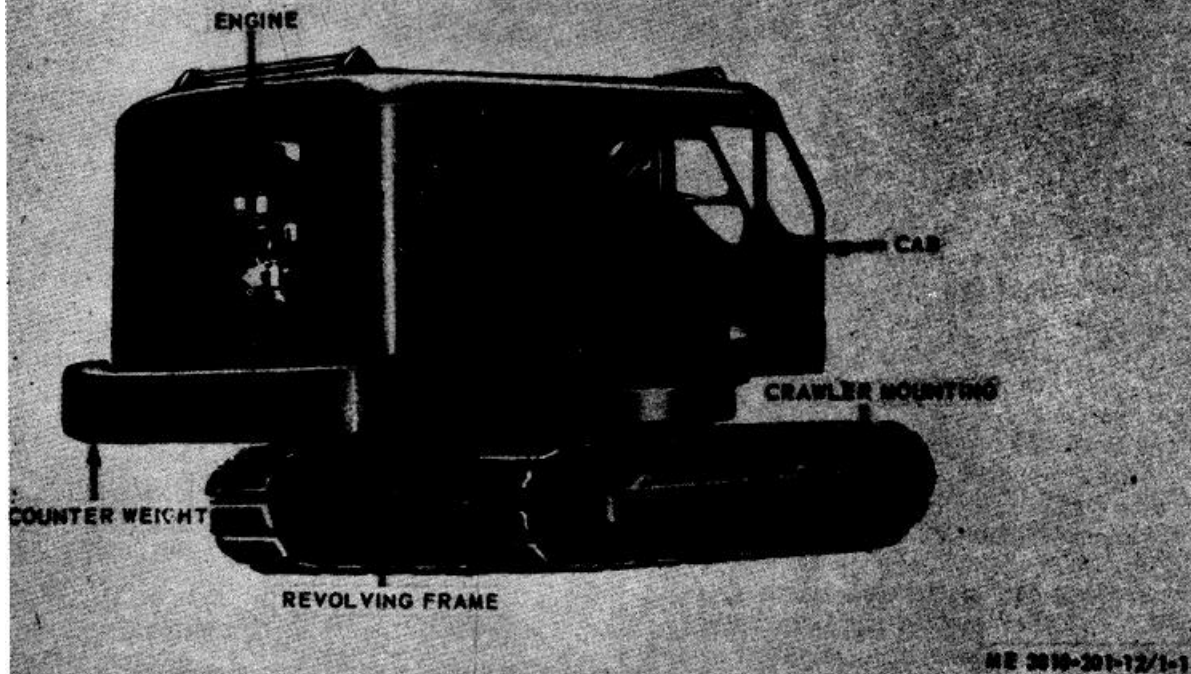

Figure 1-1. Crane-shovel basic unit, right 3/4 rear view, and shipping dimensions.
b. *Revolving Frame.* The revolving frame (fig. 1-1) upon which are mounted the engine, upper machinery, and gantry, revolves around a center gudgeon and a live roller circle mounted on the crawler. It carries four hook rollers (two in front and two at rear), which ride on the underside of the roller path, and prevents tipping of the rotating base. A counterweight is fastened at rear of revolving frame. A gantry frame which contains gantry sheaves and harness, is mounted on the revolving frame along with a collapsible high gantry which is provided for use in crane, clamshell, dragline, or piledriver service.
c. *Cab.* The cab (fig. 1-1) completely encloses all machinery on the revolving frame. It consists of rigid